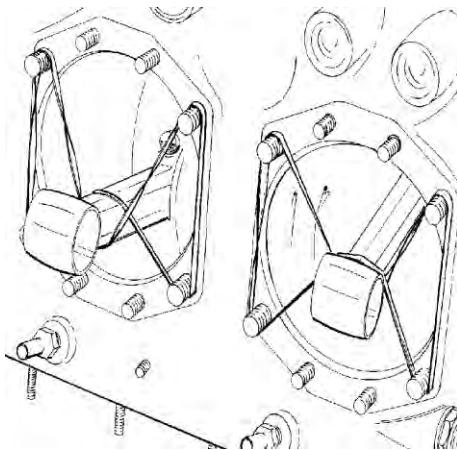

Figure 10
- (2) Make a loop around the cylinder base studs and connecting rod using a rubber band or the cylinder base seal (removed during cylinder removal) as shown in Figure 10.